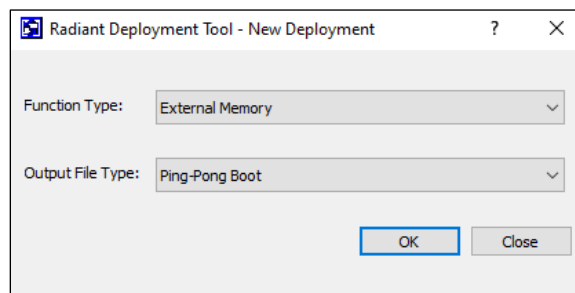

Figure 7.7. Creating New Deployment for Ping-Pong Boot File
- In the Radiant Deployment Tool window, select **External Memory** as the **Function Type** and select **Ping-Pong Boot** as the **Output File Type** (Figure 7.7).